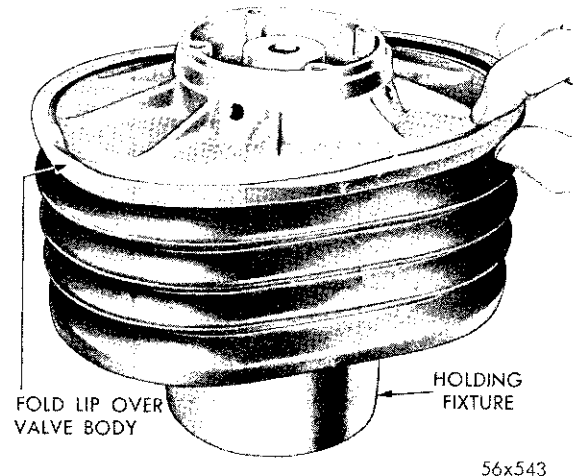

Fig. 36—Installing the Bellows
(11) If new bellows are being installed, position the supports in the bellows. (The supports must be centered in three center accordion folds and aligned with the bellows and each other.)
(12) Using holding fixtures (made from a piece of 4-inch pipe) to support the guide and valve assembly, install the bellows (Fig. 36). **Be sure the arrows on the edge of the bellows and housing are aligned.**